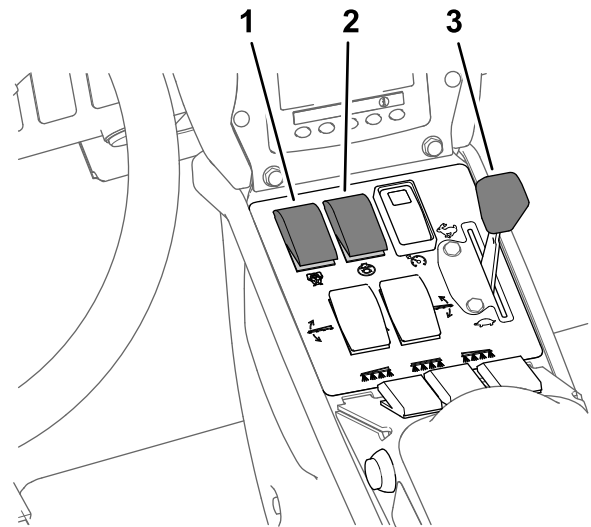

Figure 43
7. Set the pump switch to the ON position (Figure 43).
8. Move the throttle to the FAST position (Figure 43) and allow the engine to run for 10 minutes.
- Set the agitation switch to the OFF position and set the throttle to the FAST position (Figure 43).